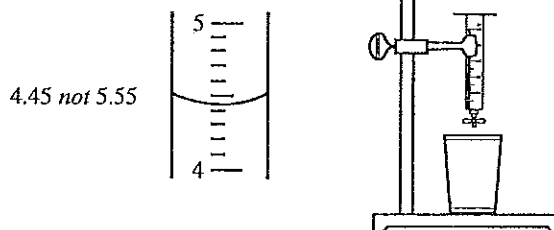

Figure 3.
a. Use a test tube clamp to clamp the buret to a support stand (see Figure 3). Place a waste cup beneath the buret.
e. Record the initial volume of sodium thiosulfate solution in the buret in Table 2 of the Temperature Worksheet. Read from the bottom of the meniscus each time (see Figure 3).